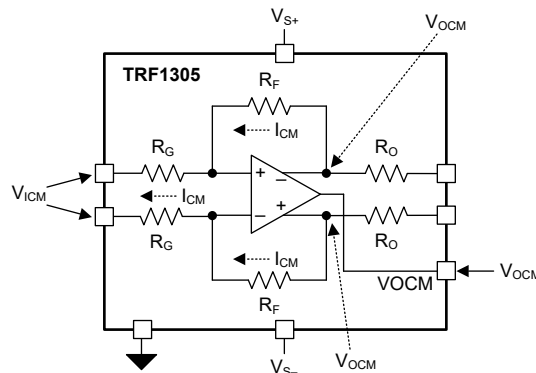

Figure 8-4. Net DC Current Flow When Input and Output Common-Mode Voltages are not Equal
The TRF1305x1 accepts a wide range of input dc common-mode (CM) voltages. Take into consideration the dc current loading of the source when the TRF1305x1 is dc-coupled at the input. Figure 8-4 shows that when the input CM voltage, V_{ICM} , is different than the output CM voltage, V_{OCM} , a net dc current flow from or to the source occurs. Equation 1 shows the relationship that the source or sink current, I_{CM} , has with the input and output CM voltages: